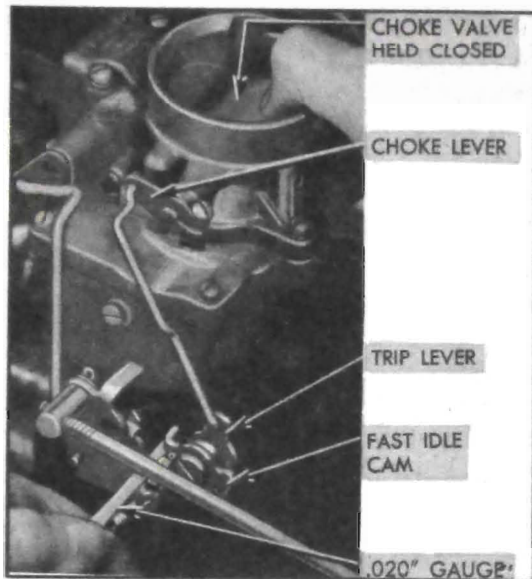

Figure 3-24—Checking Carter Fast Idle Cam Clearance
2. Hold choke valve in closed position and see that the cam trip lever is in contact with the fast idle cam, then check the clearance between the arm of fast idle cam and the boss on body flange, using a .020" feeler gauge (T109-29). See figure 3-24.